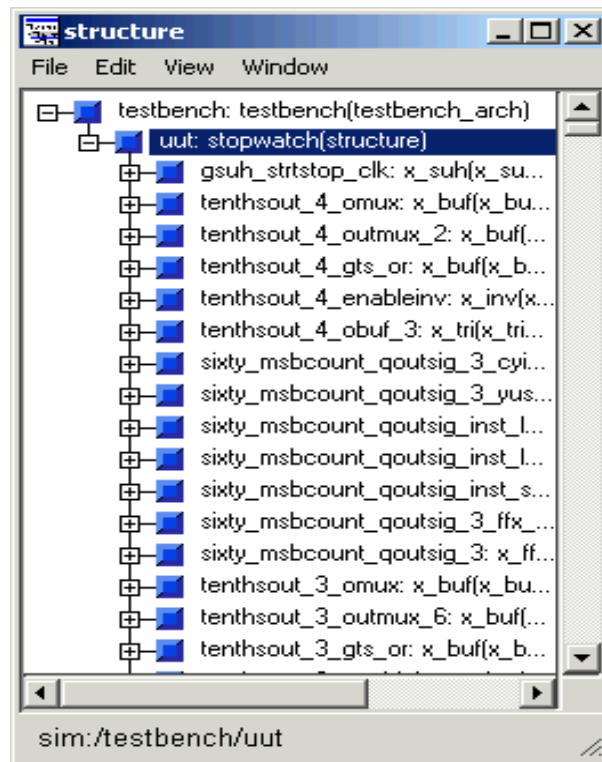

Figure 6-3: Structure Window - Verilog flow example
**Note:** Figure 6-3 shows the Structure Window for the Verilog flow. The VHDL and Schematic flows may produce different results.